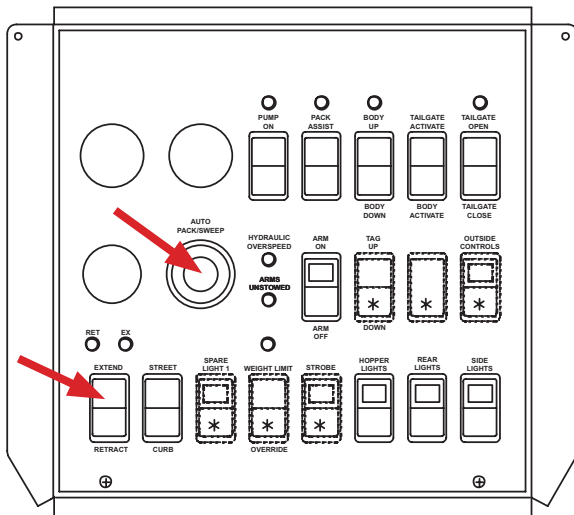

Figure 5
2. The second person should be in the cab to press and hold down the AutoPack/Sweep button and Retract switch simultaneously (Figure 5). Do not let up on the button/switch.